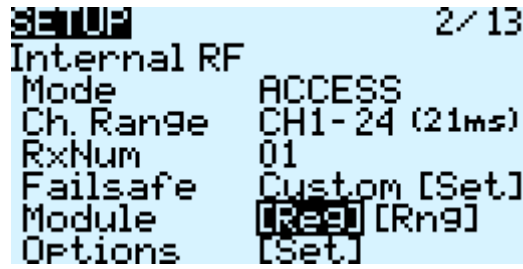

Figure 33: Internal RF
5. Using the ENT knob, scroll down to INTERNAL RF. (Figure 33)